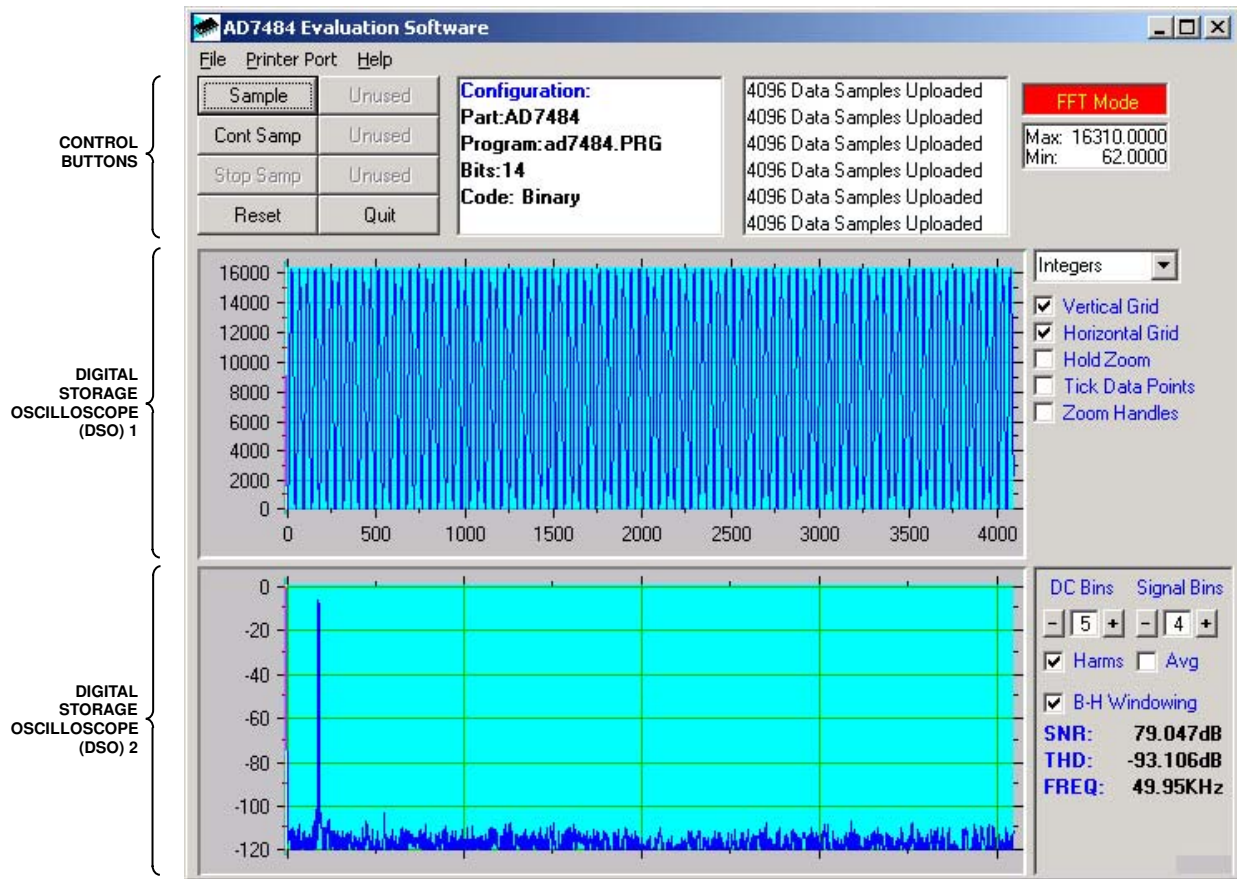
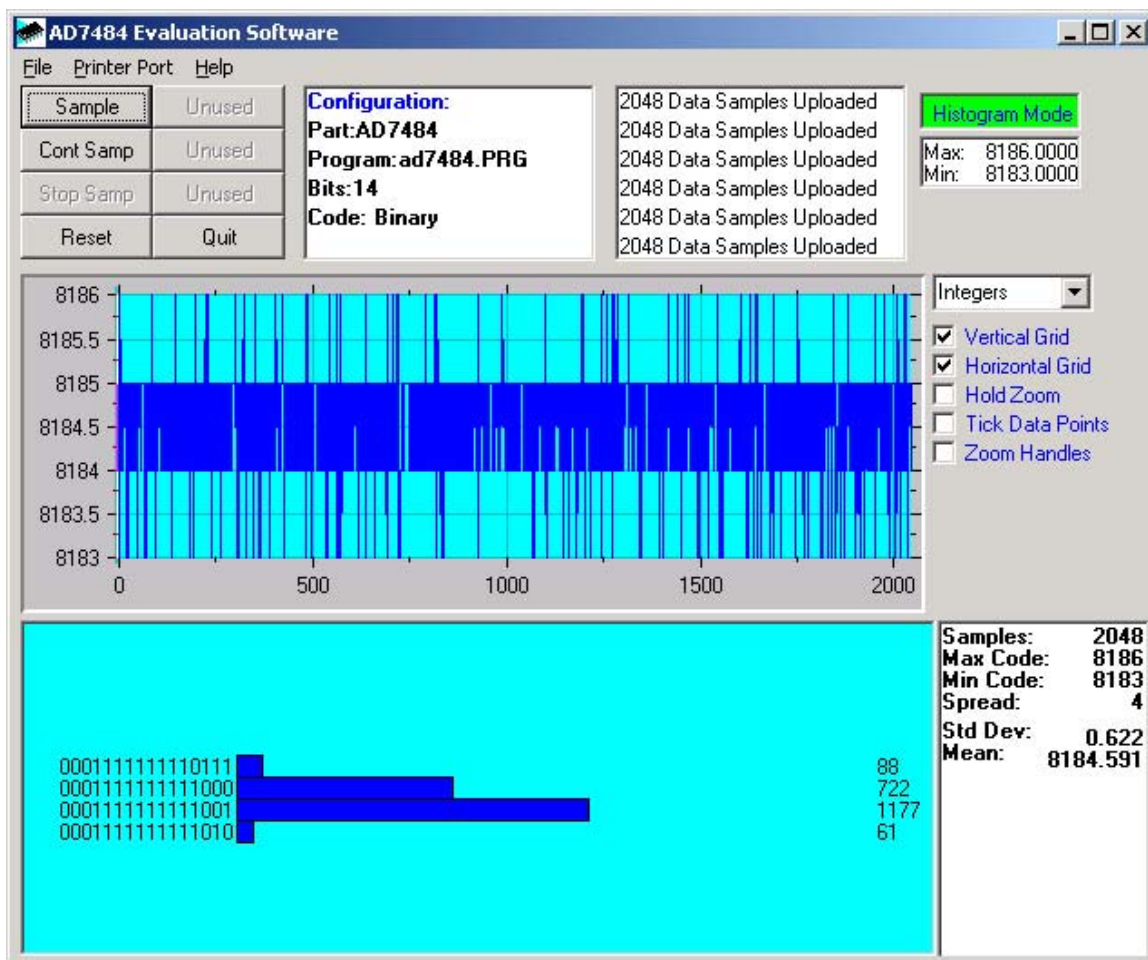
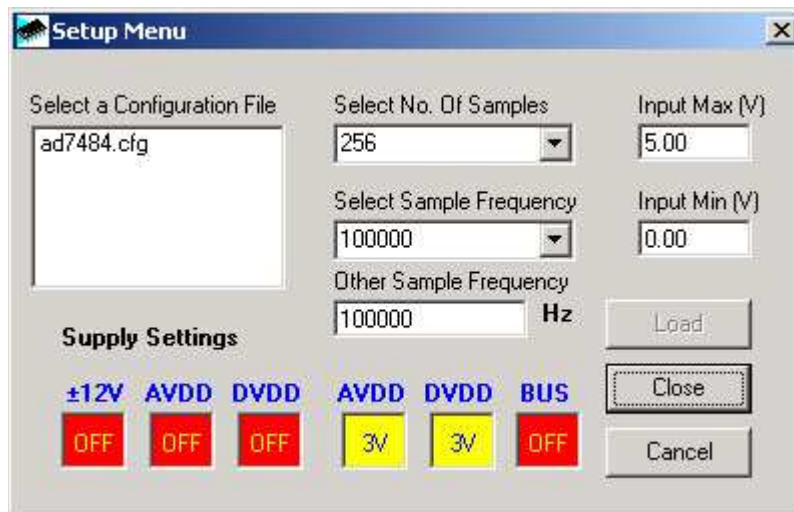

Figure 3. AD7484 Main Window
Figure 4. AD7484 Main Window – Histogram Mode
Figure 5. Setup Menu Window
The software that controls the EVAL-CONTROL BRD2, and therefore the evaluation board, has two windows. The window shown in Figure 3 is the window that appears when the software is first run. It displays information about samples from the evaluation board in either Fast Fourier Transform (FFT) mode (Figure 3) or histogram mode (Figure 4). The main window also provides access to the Setup Menu window (shown in Figure 5), where the configuration file for the evaluation board is loaded.
The main window (see Figure 3 and Figure 4) allows the user to read a predetermined number of samples from the evaluation
The lower third of the window contains either a Fast Fourier Transform (FFT) of the data or a histogram that displays the number of occurrences of each code read back. The FFT (default option) is typically used to show an ADC's performance in the frequency domain, while the histogram gives an indication of the ADC's performance with DC signals. The option displayed can be toggled by clicking the **FFT Mode/Histogram Mode** button at the top right of the window. Figure 4 shows how the main window looks when histogram mode is selected.
The **Setup Menu** window, shown in Figure 5, is used to load the required configuration file for the evaluation board. When the configuration file is loaded, the software acquires detailed information about the evaluation board and part connected to the EVAL-CONTROL BRD2, such as the number of bits, maximum sampling rate, output coding, maximum analog input, and power supply requirements. The configuration file also tells the software the name of the DSP program file that it should download to the EVAL-CONTROL BRD2. These files are supplied by Analog Devices with the evaluation board.
The main window (see Figure 3 and Figure 4) is used to display and read samples and additionally to control the EVAL-CONTROL BRD2 and the AD7484 evaluation board. The evaluation board can run at up to 2.2 MSPS, so the user can choose any sampling frequency up to this rate. The number of samples to be taken can also be chosen. These samples are uploaded and displayed, and an FFT and a histogram are calculated and displayed.
**Setup Menu.** Displays the Setup Menu window, as shown in Figure 5.